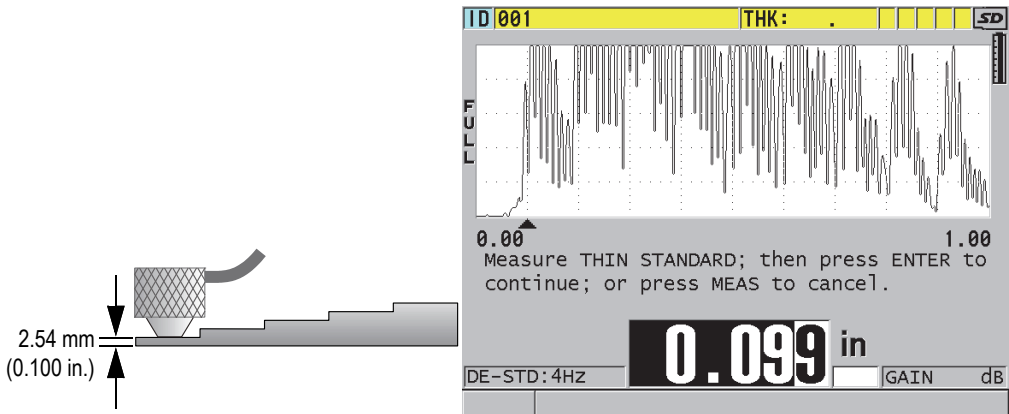

Figure 5-5 Performing the zero calibration on a 5-step test block
2. To perform the zero calibration (see Figure 5-5 on page 85):